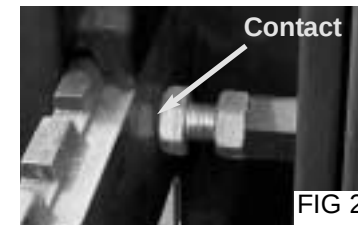

FIG 2
- 2) Ensure the stop bolts are properly contacting the ITA board. (FIG 2)